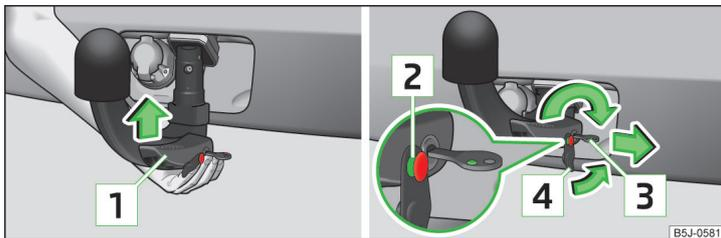

Fig. 120 Insert the ball head/lock the lock, and put the lock cover on
- Grip the tow bar **from underneath** » Fig. 120 and insert into the mounting recess until you hear it click into place » **!**
Lever **[1]** » Fig. 120 **automatically** turns upwards and the release pin **[2]** pops out (its red and green parts are visible) » **!**
- Push cap **[4]** » Fig. 120 onto the lock in the direction of the arrow » **!**